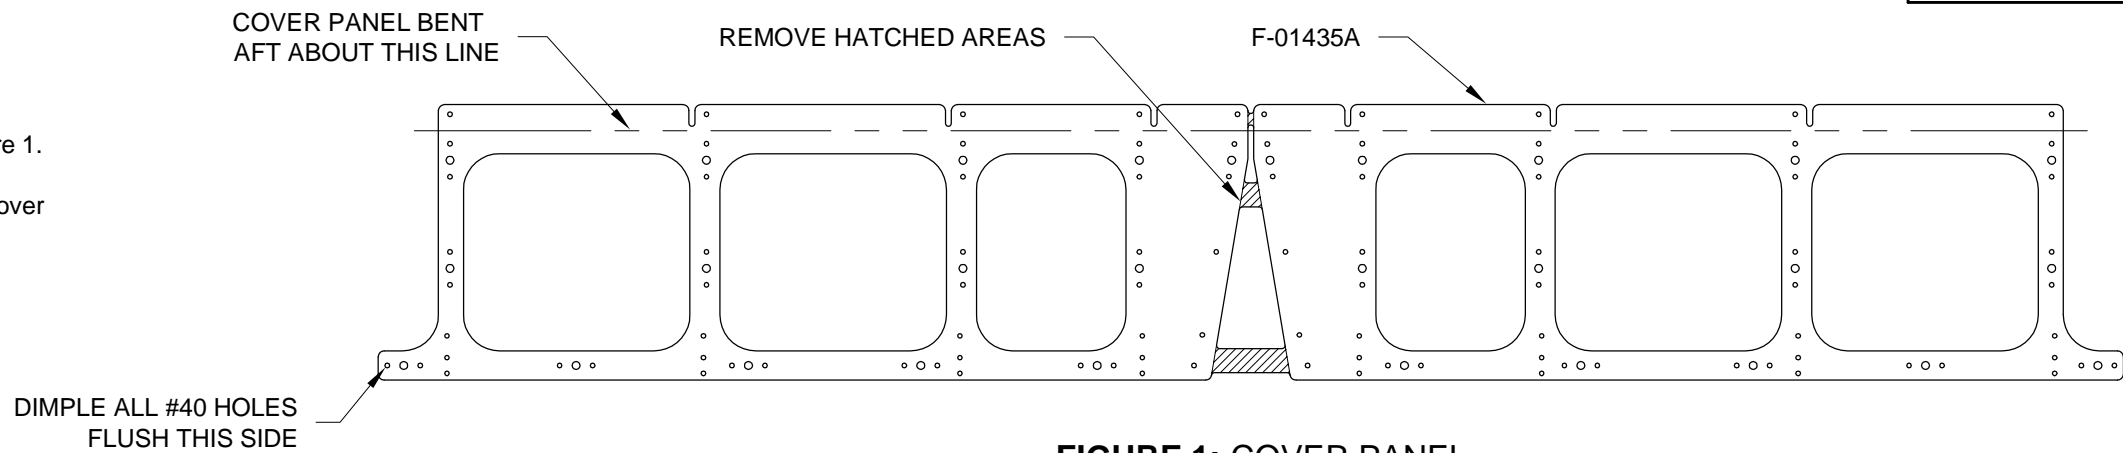

FIGURE 1: COVER PANEL
Step 1: Dimple all of the #40 holes in the F-01435A Cover Panel as shown in Figure 1.
Step 2: Separate the F-01435A-L & -R Cover Panels as shown in Figure 1.